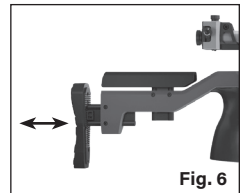

Fig. 6
- Loosen the two set screws using a $\frac{3}{32}$ Allen head wrench (Fig. 6).